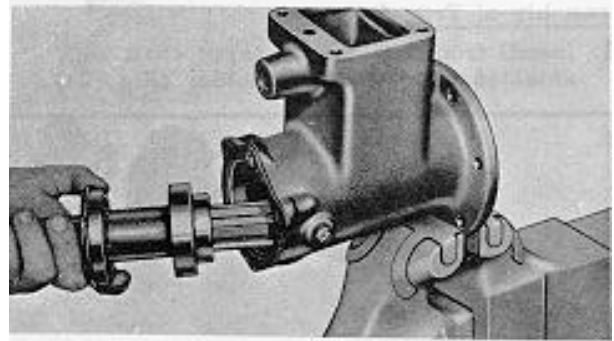

Fig. 22.
3. Slide shaft assembly into housing and install sliding clutch on inner end (Fig. 22).